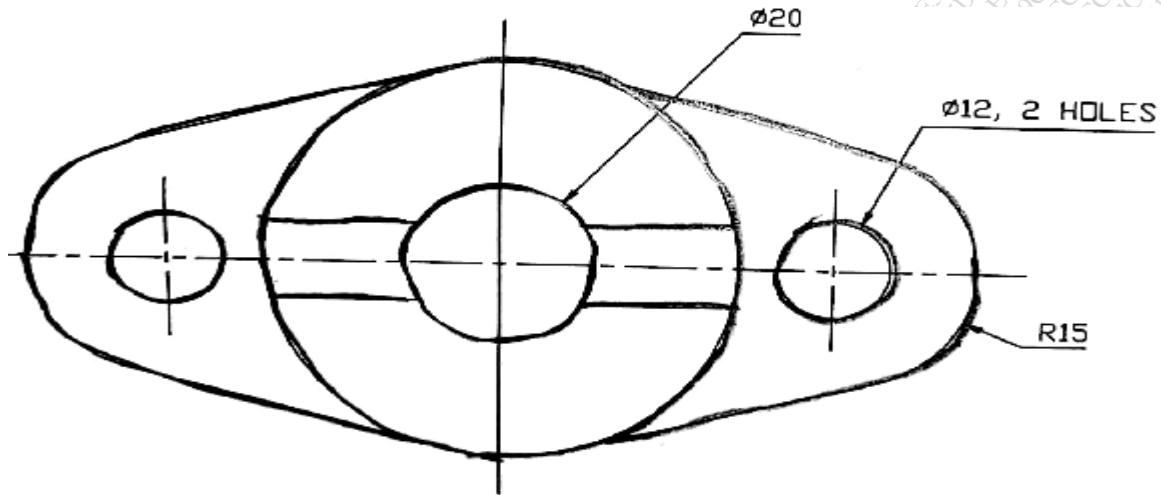

Fig.2
- Design and draw a milling fixture to mill the slot  $10 \times 10\text{mm}$  deep in a component shown in fig.2 16